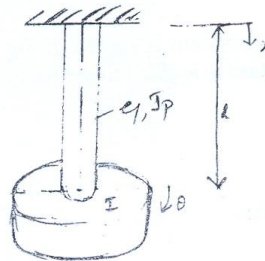

Fig. Q8(b)
- b. A rod carries a disc at its lower end as shown in Fig. Q8 (b). Derive the expression for the natural frequencies. (10 Marks)